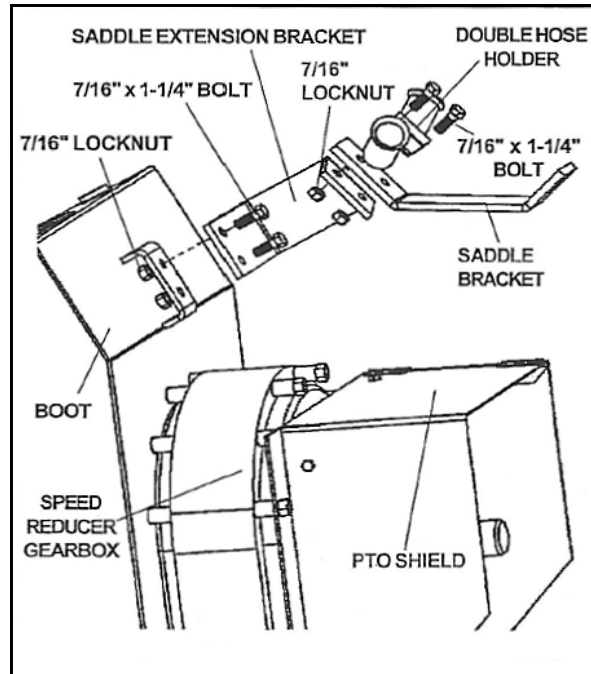

Figure 4
7. Attach PTO saddle extension bracket to boot with two 7/16" x 1-1/4" bolts and nuts. Tighten securely (Figure 4).